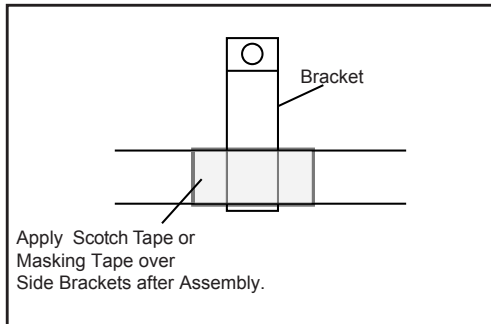

Fig. 5
- a) Using masking or scotch tape, tape the center bracket in place at the center of the moonroof (as shown in Fig. 5 to hold it in place for the wind deflector installation.